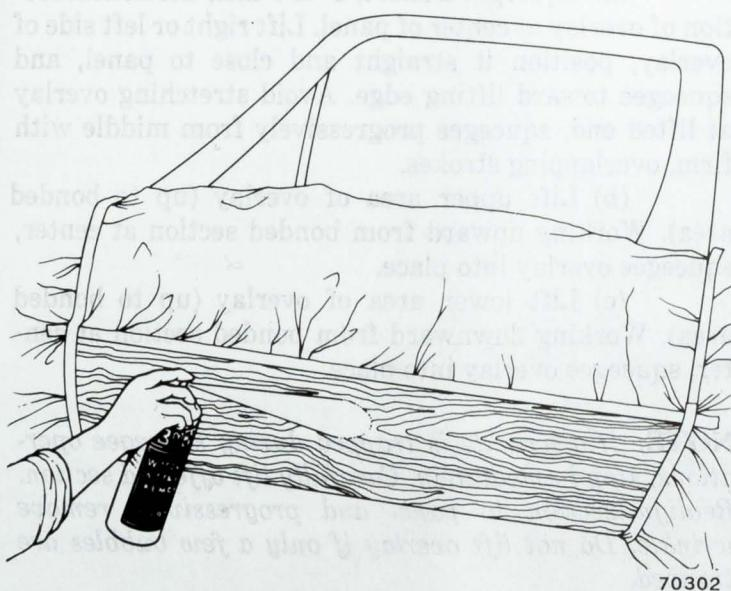

Fig. 3P-24 Spraying Remover on Overlay
(1) Clean repair surfaces, adjacent panels, and openings as required.
(2) Remove overlay reveal mouldings, door handles, lock assembly, side marker lamps, or other overlapping parts from the affected panel.
(3) Mask off areas surrounding the panel.
(4) Scuff sand overlay with 220 grade dry sandpaper. Avoid cutting through and reclean overlay.
(5) Spray 3M Woodgrain and Stripe Remover, or equivalent, on flange area first. Then spray entire overlay to be removed (fig. 3P-24). Move spray can back and forth across entire overlay in a smooth steady motion. Make sure entire overlay is coated with remover.